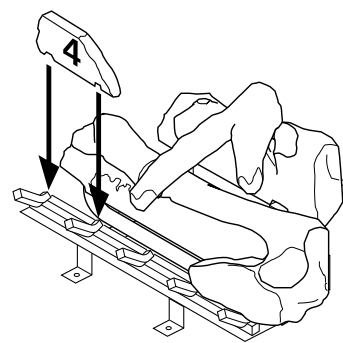

Figure 57 - Installing Log No. 4
4. Place log #4 (small log) onto the front left part of the grate making sure the notches fits over the prong of the grate. See Figure 57.